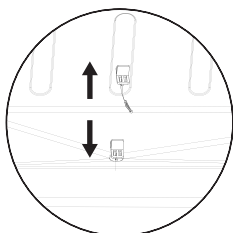

Fig. 1
- To ensure proper drainage of defrost water, regularly utilize the drain filter from the fitting bag to clean the defrost water drain outlet. This outlet is situated on the rear wall of the refrigerator compartment (see Fig. 1). Always keep the drain filter inserted into the drain outlet to prevent any blockages caused by dirt.